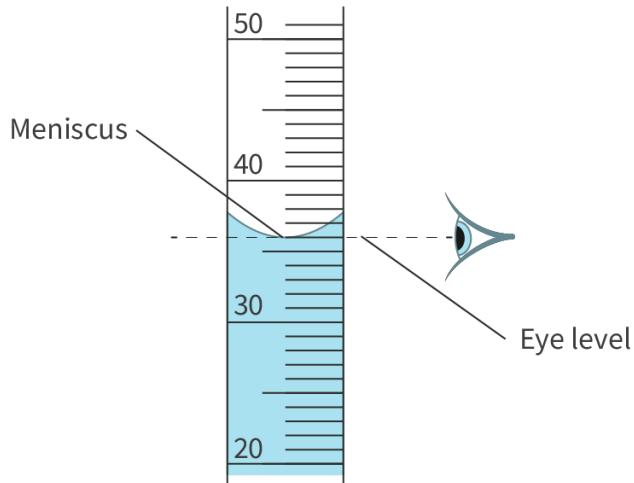

Figure 7. Use the hatch marks on a graduated cylinder to read the volume of a liquid to one uncertain digit.
- Consider the graduated cylinder in **Figure 7**. The hatch marks are at every 1cm^3 , so the uncertainty is 0.5cm^3 . This means that your measurement must read to the tenths place. Since the hatch marks are close together and the meniscus appears to be sitting directly on the line, you would take this measurement as $36.0 \pm 0.5\text{cm}^3$.
More information for figure 7